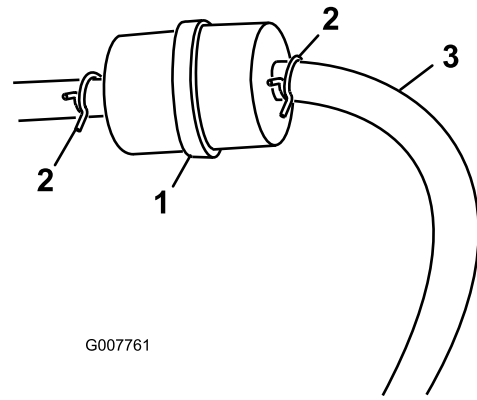

Figure 25
3. Squeeze the ends of the hose clamps together and slide them away from the filter (Figure 25).
5. Install a new filter and move the hose clamps close to the filter (Figure 25).
3. Loosen the hose clamp at the fuel filter and slide it up the fuel line away from the fuel filter (Figure 25).
4. Disconnect the fuel line from the fuel filter (Figure 25).
Note: Allow gasoline to drain into a fuel container can or drain pan (Figure 25).
5. Install the fuel line onto the fuel filter. Slide the hose clamp close to the fuel filter to secure the fuel line (Figure 25).